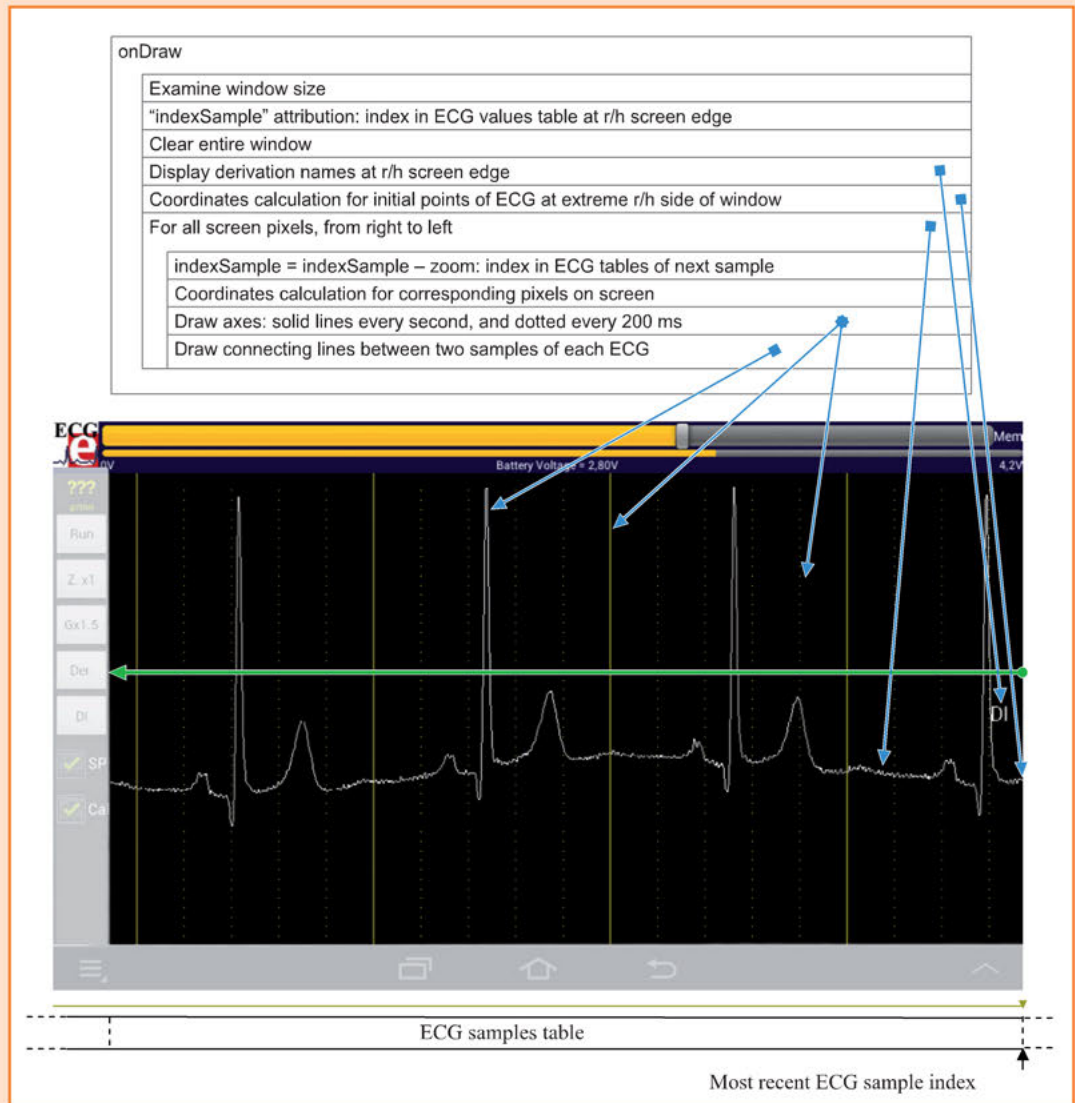

Figure 17. The graph refresh algorithm.
- The *onDraw()* method called periodically by the *ThreadGrapheYT* thread, responsible for plotting the selected ECGs, along with the axes (**Figure 17** in the box).